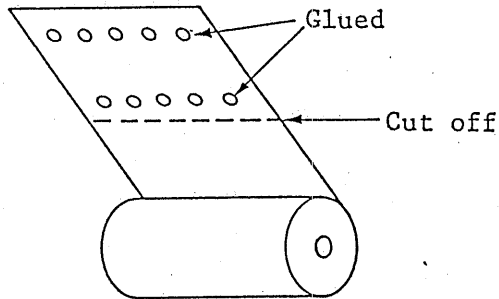

Fig. 14.1
1) Prepare the proprietary thermosensitive paper WP:PP-123. Cut off the paper tip crosswise at a position beyond the glued part, towards the roll core (Fig. 14.1).